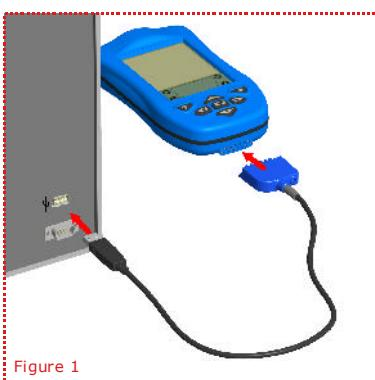

Figure 1
- Connect the communications cable to the communication connector located at the bottom of the Meazura™ (as pictured in figure 1 left).